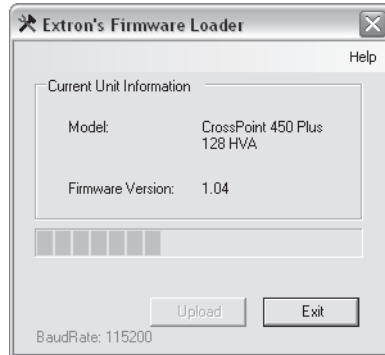

Figure 5-8 — Firmware Loader status indicator bar, switcher reset, and firmware update
8. Click the *Upload* button. A status bar, which shows the progress of the upload, appears in the Firmware Loader window (figure 5-8). The firmware upload to the switcher may take several minutes.
Once the status bar has progressed fully from left to right, the firmware loader utility resets the switcher (figure 5-8).